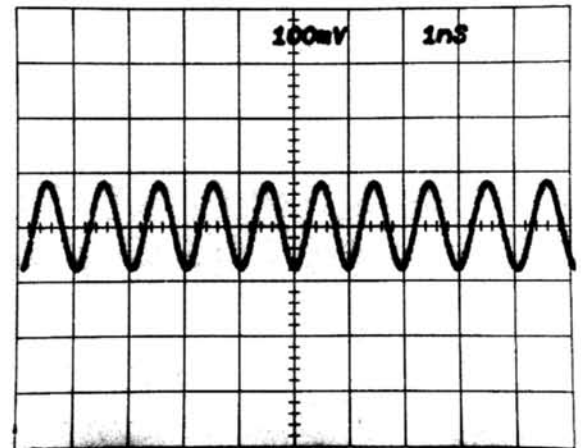

Fig. 7-4. 1 GHz SYNC.
- c. Adjust the 7S14 TRIGGERING LEVEL control to synchronize on a 1 ns sine wave (see Fig. 7-4).
d. Remove the test probe, release the 7A13 DISPLAY button, and check that it is possible to trigger a waveform (see Fig. 7-4) using the 7S14 LEVEL control.